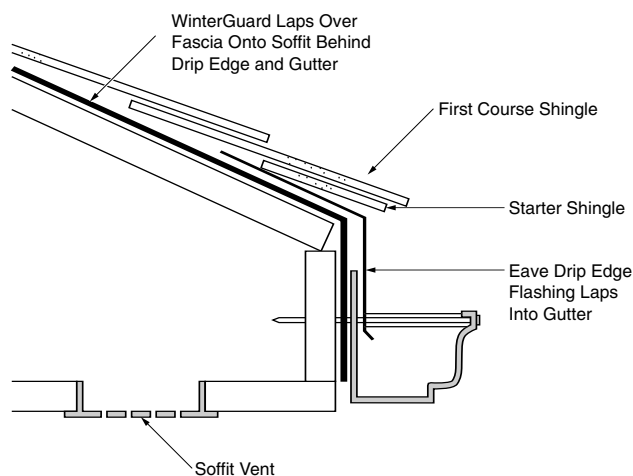
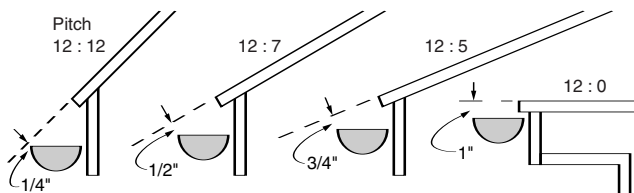

Figure 5-8: Application down the fascia to protect against ice build-up in gutters.
Figure 5-10: Gutter placement. Place gutters below slope line to allow snow and ice to slide clear.
**DEFEATING ICE BUILD-UP IN GUTTERS:** Ice build-up in gutters will often allow meltwater to intrude behind fascia boards. Depending on construction of the eaves, deterioration of soffits or even interior damage can occur that looks like a roof leak. One method to solve this problem is shown in Figure 5-8. Another method is to wrap WinterGuard™ down the fascia onto the soffit, and nail a furring strip to hold WinterGuard tightly in place. This strip also serves as a UV block. Install the gutter in front of the WinterGuard-covered fascia. Then install the drip edge on the eaves over WinterGuard. Make sure the drip edge extends well into the rain gutter as shown in Figure 5-8, so UV rays are prevented from reaching WinterGuard. If the fascia is wider than about 6" WinterGuard must be stopped behind the gutter to prevent exposure to UV. This approach won't be acceptable on many aluminum or vinyl fascia systems. Also, refer to Figure 5-10 for proper gutter placement.